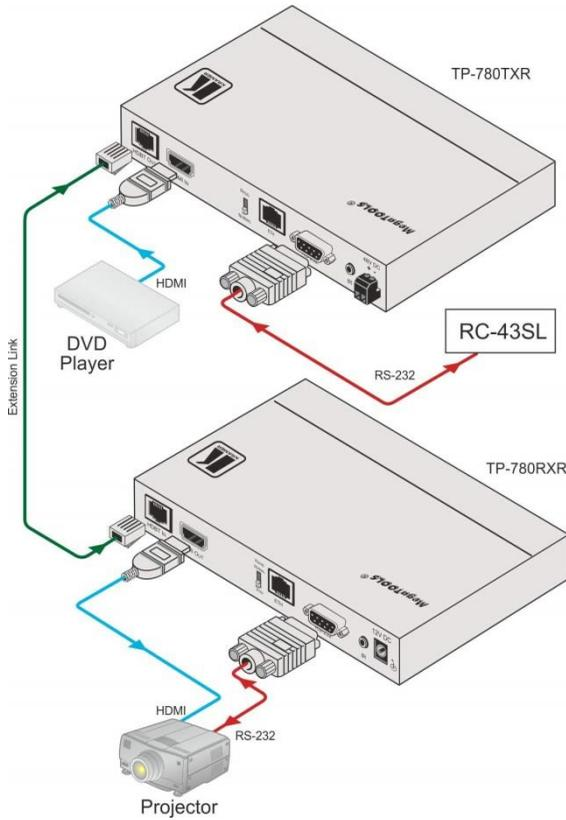

Figure 3: Connecting the TP-780TXR/TP-780RXR Transmitter/Receiver Pair
You can use the **TP-780TXR** and **TP-780RXR** *Extended Range HDMI Line Transmitter/Receiver + POE* to configure an HDMI transmitter/receiver system, as shown in the example in Figure 3.
5. 48V DC power adapter to the power socket and connect the adapter to the mains electricity (not shown in Figure 3).
5. If operating the **TP-780RXR** over a range of more than 100m (330ft), connect the 12V DC power adapter to the power socket and connect the adapter to the mains electricity (not shown in Figure 3).